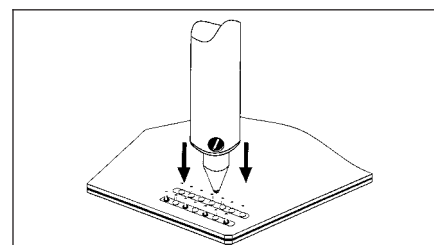

Figure 1 Position Tip
7. Lower tip contacting solder connection. (See Figure 1.)